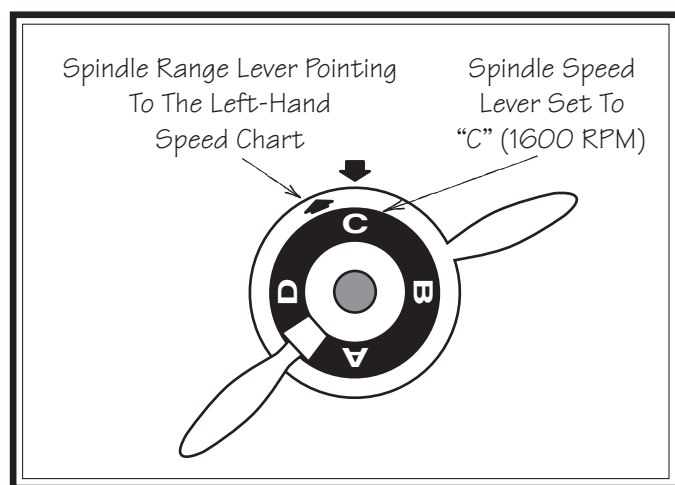

Figure 69. Spindle speed set at 1600 RPM.
3. Move the spindle range lever to the left so that the arrow on top of its hub points toward the left-hand speed chart (see the illustrated in **Figure 69**).